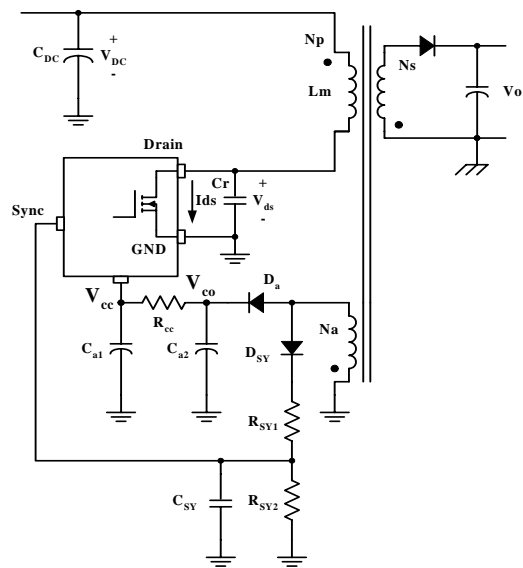
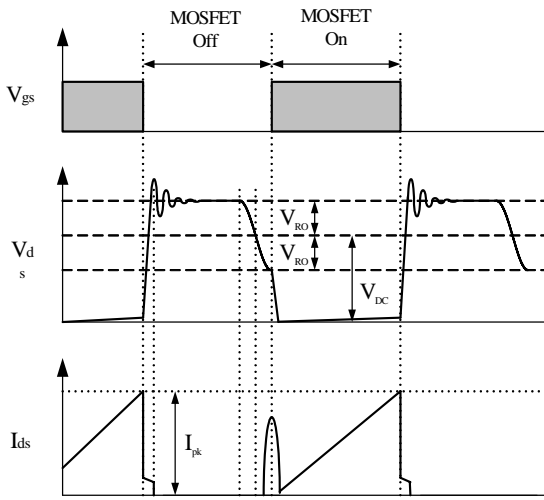
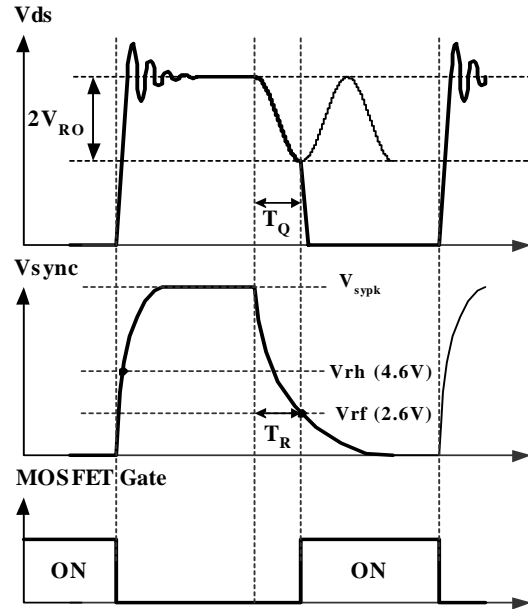

Figure 6. Synchronization Circuit
Figure 7. Quasi-resonant Operation Waveforms
Figure 8. Normal Quasi-Resonant Operation Waveforms
2. **Synchronization:** The FSCQ-Series employs a quasi-resonant switching technique to minimize the switching noise and loss. In this technique, a capacitor (Cr) is added between the MOSFET drain and the source as shown in Figure 6. The basic waveforms of the quasi-resonant converter are shown in Figure 7. The external capacitor lowers the rising slope of the drain voltage to reduce the EMI caused when the MOSFET turns off. To minimize the MOSFET's switching loss, the MOSFET should be turned on when the drain voltage reaches its minimum value as shown in Figure 7.
The minimum drain voltage is indirectly detected by monitoring the Vcc winding voltage as shown in Figure 6 and 8. Choose voltage dividers, R_{SY1} and R_{SY2}, so that the peak voltage of the sync signal (V_{sync}) is lower than the OVP voltage (12V) to avoid triggering OVP in normal operation. It is typical to set V_{sync} to be lower than OVP voltage by 3-4 V. To detect the optimum time to turn on MOSFET, the sync capacitor (C_{SY}) should be determined so that T_R is the same with T_Q as shown in Figure 8. The T_R and T_Q are given as, respectively